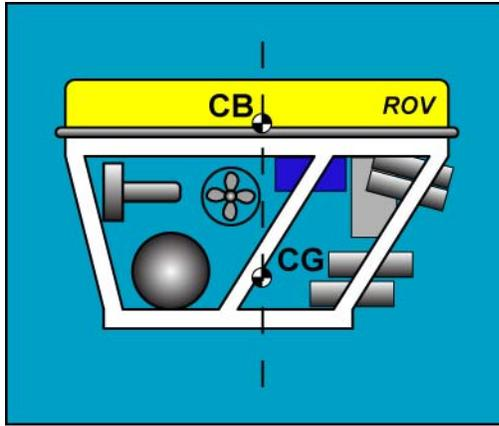

Figure 4a: ROV with Orientation Set
- If the vehicle's pitch and roll have been adjusted then its orientation is set. However, if buoyancy is still an issue, the CG of the added weights should be aligned directly below the vehicle's CG and the CB of the additional floatation should be attached above the vehicle's CB. Refer to Figures 4a and 4b. Otherwise, the vehicle's orientation will be thrown out of its set position.